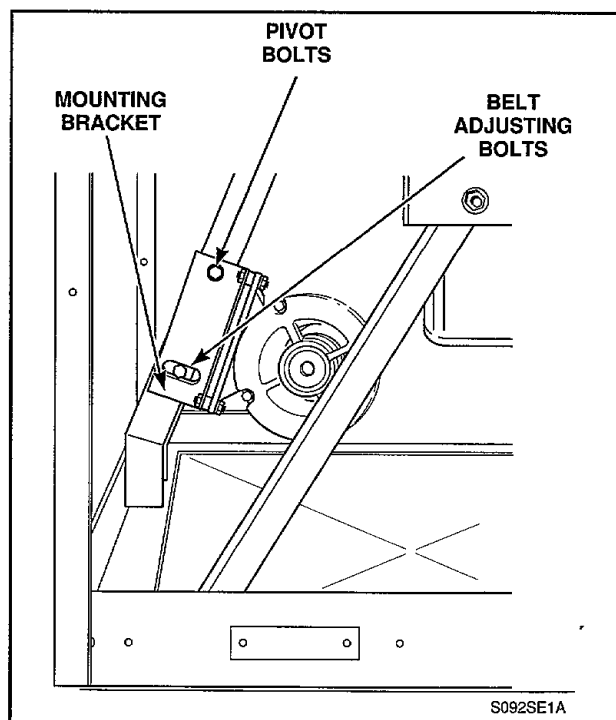

Figure 35
- Remove two mounting bracket pivot bolts and lockwashers, *Figure 35*, and allow assembly to pivot down and rest on washer base. Belt adjusting bolts may have to be loosened slightly.
- Remove two belt adjusting bolts, washers and lockwashers, *Figure 35*, and carefully lift assembly out through front of washer.